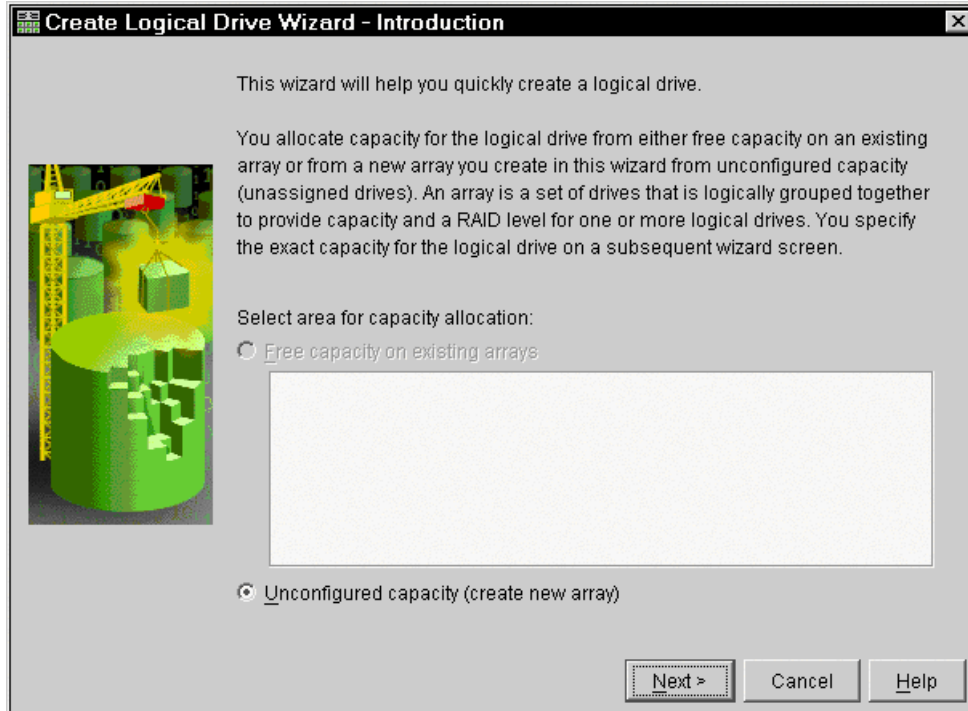

Figure 4-32 Create Logical Drive Wizard
2. After you complete this window, the Create Logical Drive Wizard appears. It leads you through the creation of your logical drives. Since we don't have any configured arrays yet, you need to select the **Unconfigured capacity** option to create a new array, as shown in Figure 4-32. Then click **Next**.